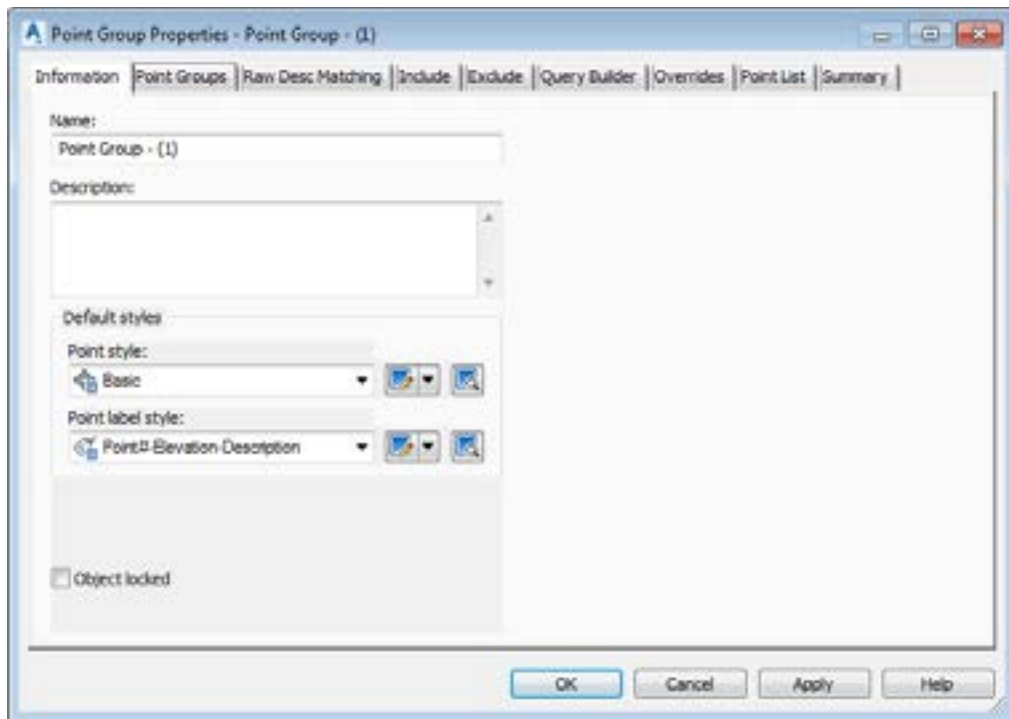

Figure 2-44 The **Point Group Properties - Point Group - (1)** dialog box
Point groups are created based on point properties. You can group points based on their point numbers, elevation, description, and so on. To create a point group, choose the **Create Point Group** tool from the **Create Ground Data** panel; the **Point Group Properties - Point Group - (1)** dialog box will be displayed, as shown in Figure 2-44. The options in the dialog box are discussed next.